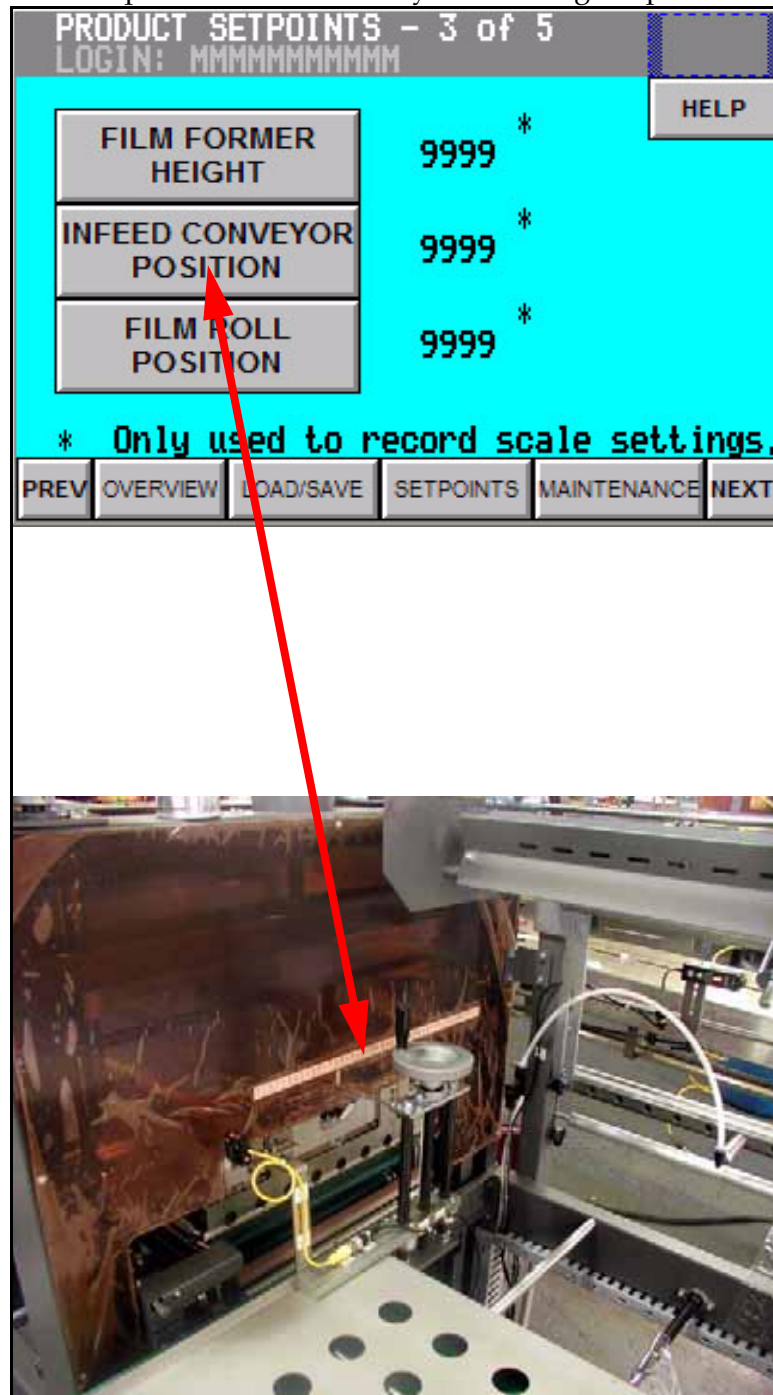

Figure 5-37. Infeed Conveyor Position
- 2 INFEEED CONVEYOR POSITION:** Pressing this button will open a numerical menu that allows you to set the infeed conveyor position. Read the infeed conveyor position off of the infeed conveyor position scale (refer to Figure 5-37), multiply this by 10 and enter the number. For example, if the scale reads "4", then enter a value of "40". Be sure to press the **RETURN** key after setting the position.